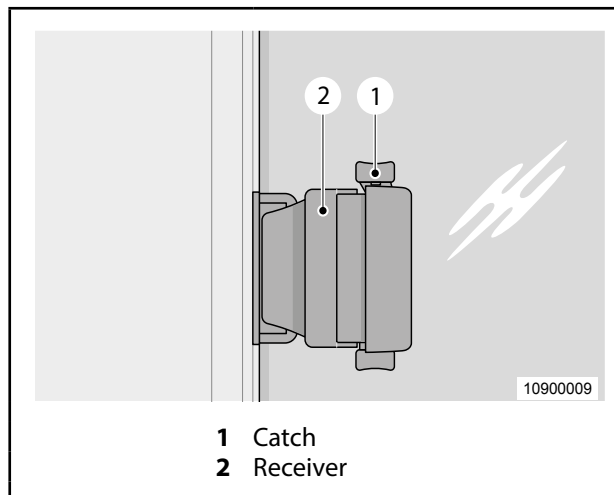

Fig. 35 Opening/closing the sliding window
- ◆ Disengage the catch (Fig. 35, item 1) from the receiver (Fig. 35, item 2) and slide the window open.
- ◆ Slide the window as far as it will go; the catch (Fig. 35, item 1) engages automatically.